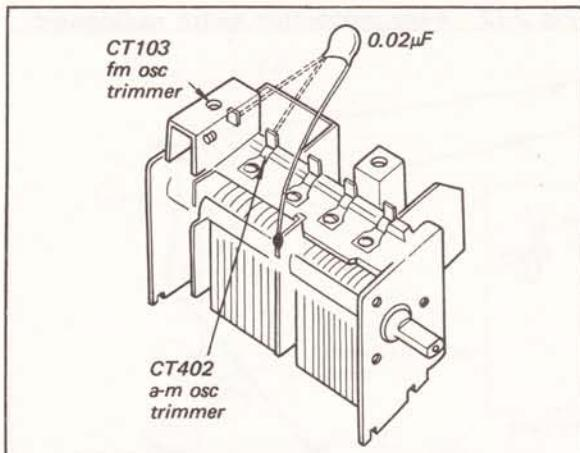

Fig. 3-2. Interruption of fm or a-m local oscillator operation
**Note:** Local oscillator should be killed when performing this alignment. To stop the local oscillator operation, shunt the oscillator capacitor with a  $0.02\mu F$  capacitor as shown in Fig. 3-2.